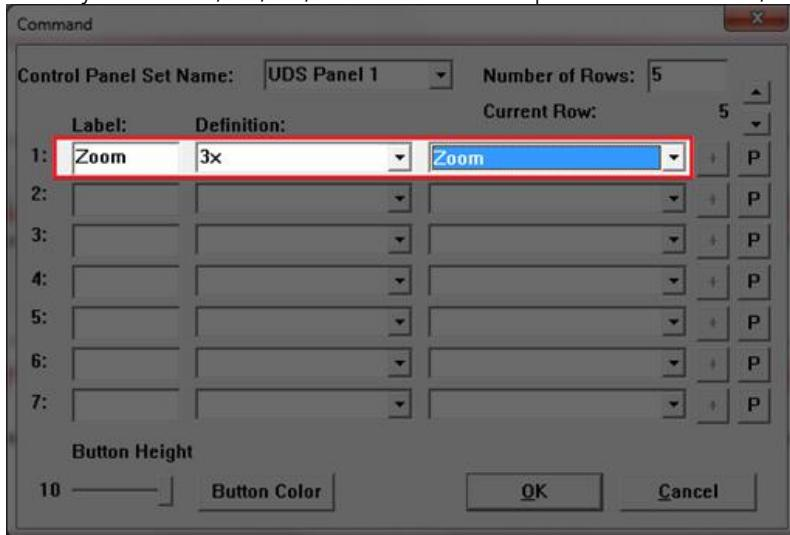

Figure 41: Command Window – Zoom Button Setup
3. Type the name under the **Label**/column, the zoom value under the **Definition** column, and select the **Zoom** description under the listing in the third column (Figure 41).